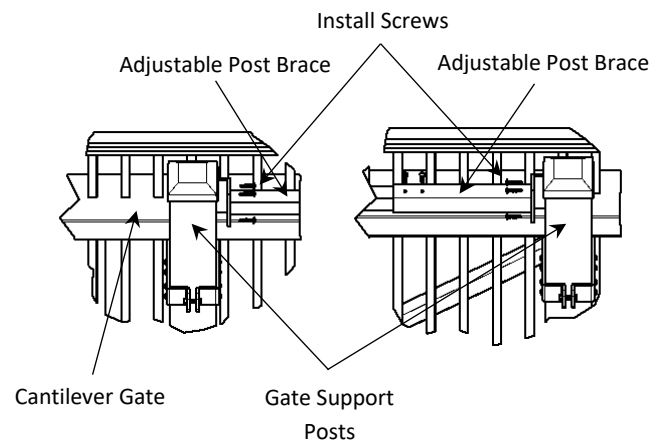
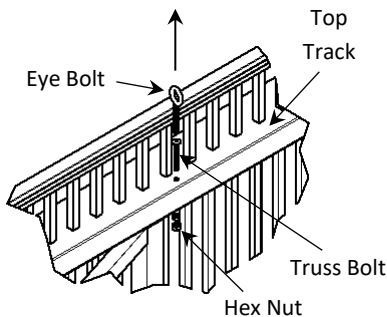

Figure 12
Figure 15
11. Install post brace at the desired height. Check clearance for any infill section (Figure 15) that will be installed between Gate Support Posts. (Figure 12)
Tighten nut. (Figure 15)